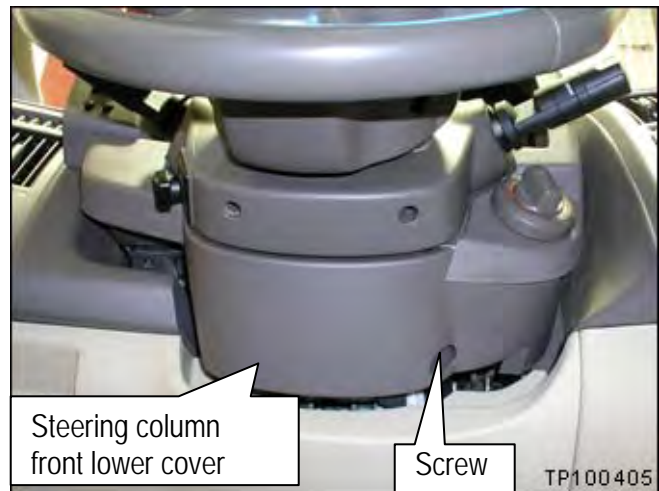

Figure 1
- a. Remove screw shown in Figure 1.